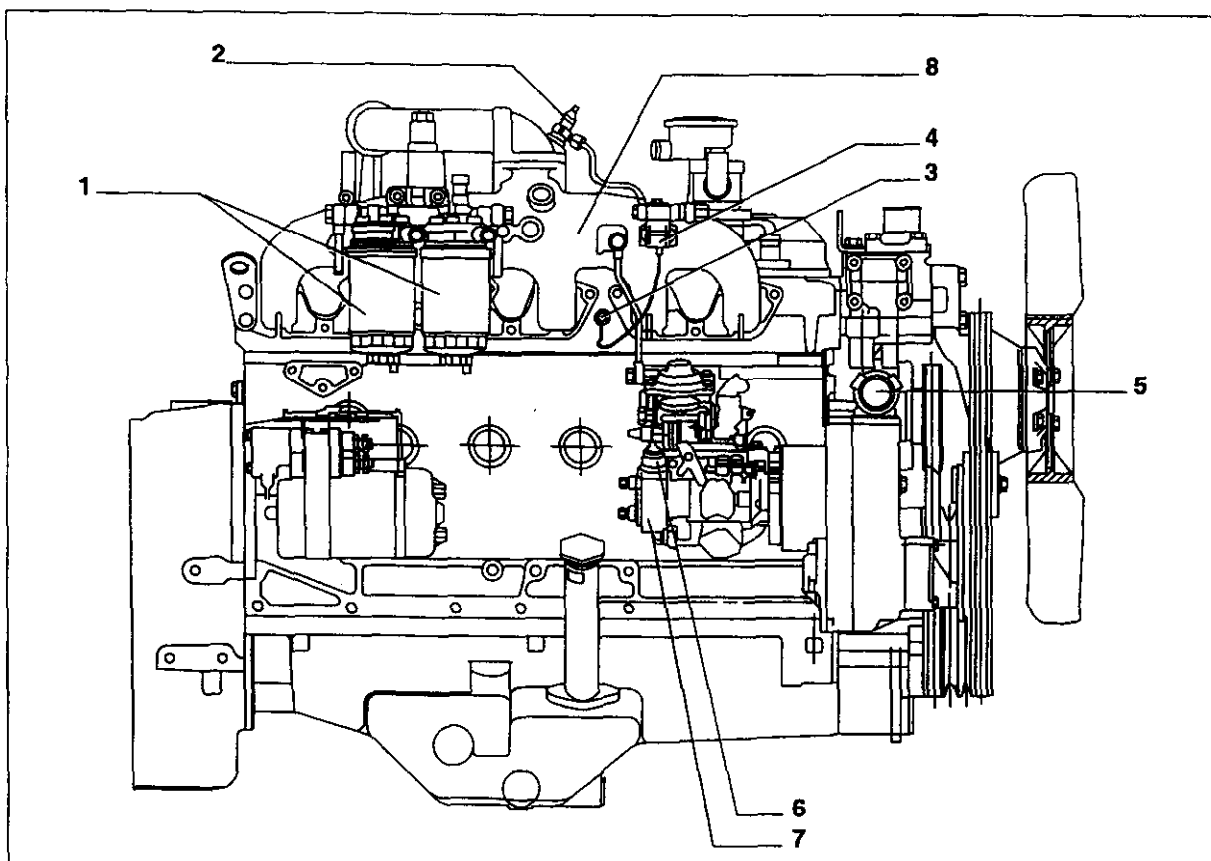

Fig. 1-14 Engine cold starting system
The cold engine starter operates when sensor (3, fig. 1-14) monitors a temperature below 8°C (46 °F). The starter heater (2), by glowing, in fact, ignites the fuel deviated into the air intake duct (8) by solenoid valve (4) heating the air sucked by the cylinders.